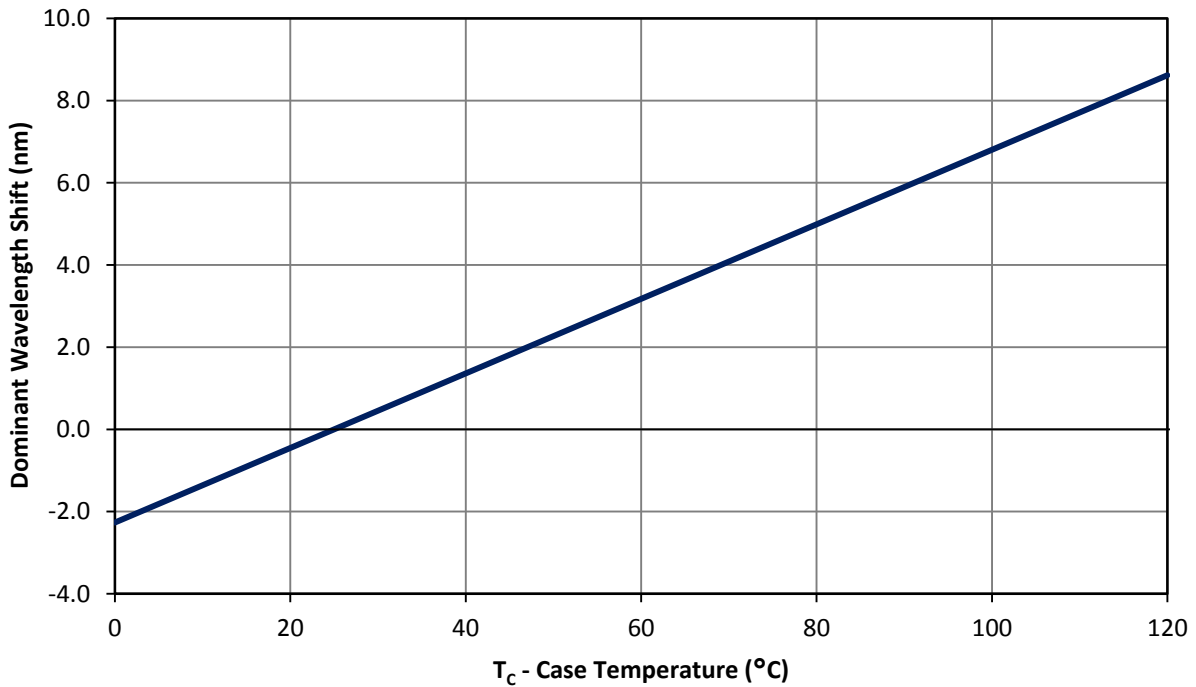

Figure 10: Typical relative dominant wavelength shift vs. case temperature.
1. Amber LEDs have a significant shift in wavelength over temperature; please refer to Figure 10 for details. Caution must be exercised if designing to meet a regulated color space due to this behavior as product may shift out of legal color space under elevated temperatures.